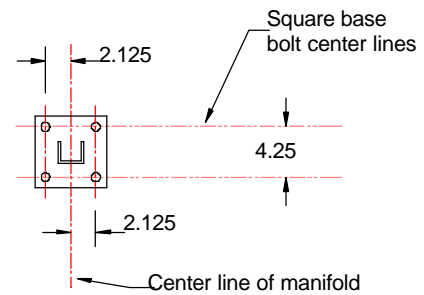

FIGURE 6
2. Mark the center line of the manifold and two lines 2.125 inches on each side of the centerline per (Figure 6).